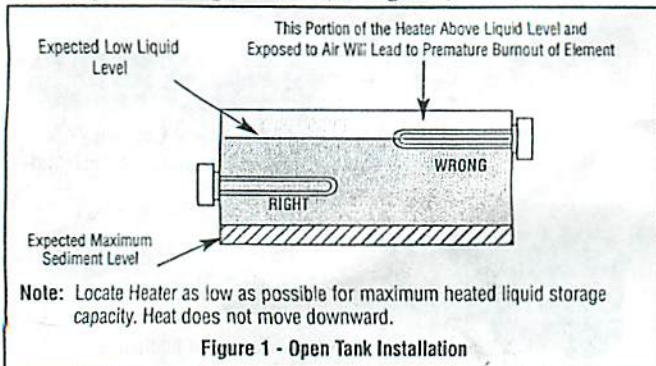

Figure 1 - Open Tank Installation
4. **IMPORTANT:** Mount the heater in the tank so that the liquid level will always be above the effective heated portion of the heater. If the heater is not properly submerged, it may overheat and damage the heating elements (see Figure 1).